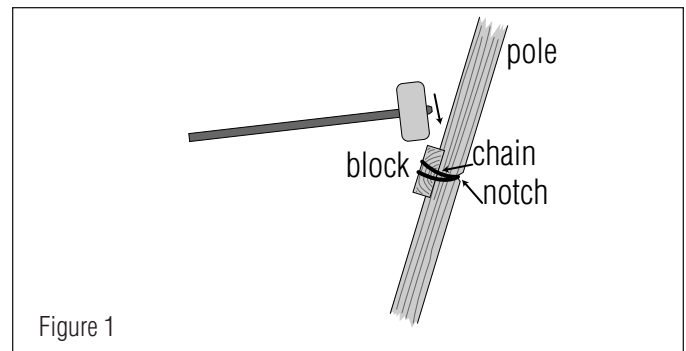

Figure 1
2. Ram the sharpened poles down into the ice holes and then use the sledge hammer to knock them at least one metre into the ground below the ice. To make the job of hammering easier, attach the block of hardwood to the side of each pole using a length of chain. To hold the chain in position, notch a small V into the pole using the saw (see Figure 1).